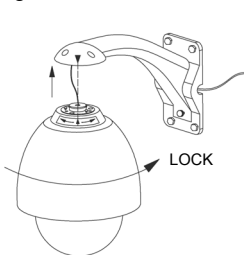

Figure 8
- 5) Aiming the "MARK" of the bracket to the "MARK" of the flange, push the dome upward to the end and rotate it with the direction of the arrow until it is clicked and tightened. (Figure 8).